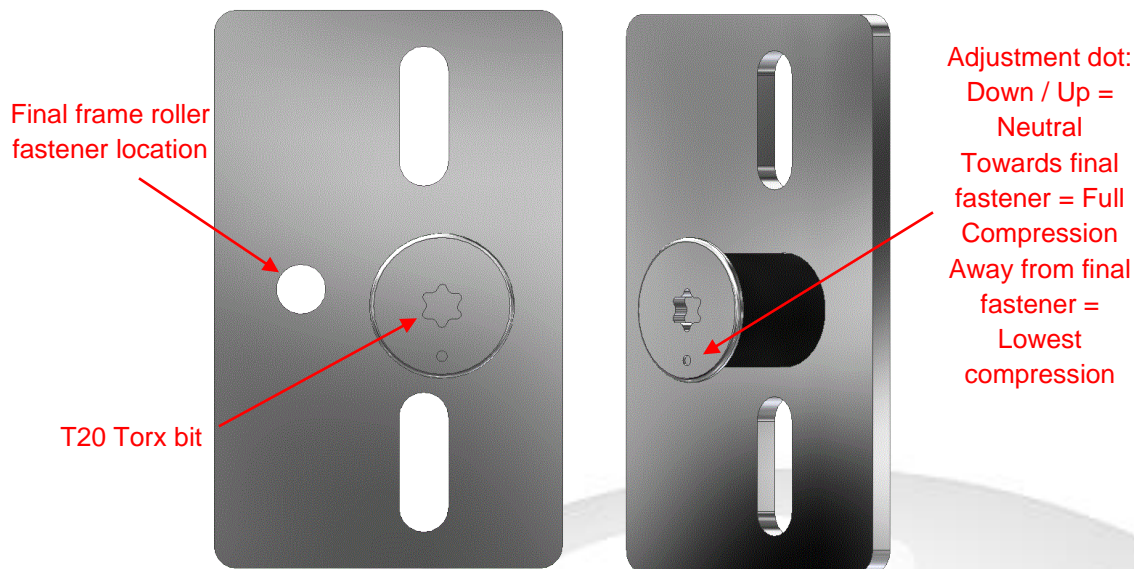

Figure 26: Frame Rollers
A) Operate the sash panel and verify the sash freely opens and locks properly. After adjusting the panel with consistent reveals you may need to adjust the rollers. The roller (frame locking point) must engage with the frame keeper (sash locking point) correctly to lock properly. The roller may need to be adjusted depending what is required. (See Figure 26)